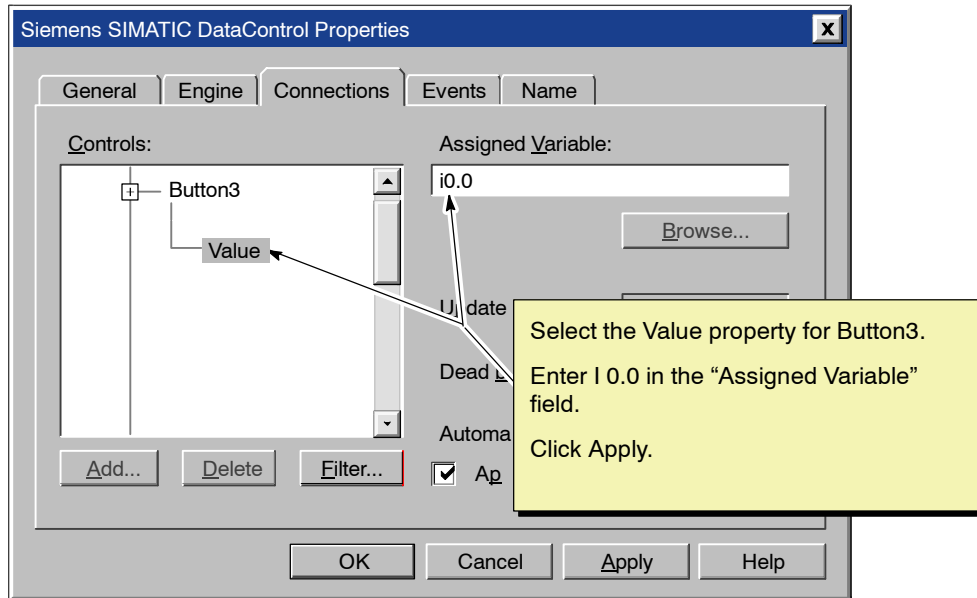

Figure 3-17 Assigning the Variable for Button3
10. With the Value property for Button3 selected, enter **i0.0** in the “Assigned Variable” field. See Figure 3-17.